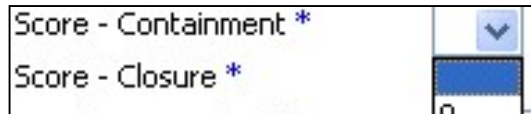

Figure 9 – Score Drop down List
- 6.11.1. Score for containment and score for closure need to be filled by originator before the originator close the issue. This score is used to calculate the supplier responsiveness and will affect the supplier monthly performance in scorecard. There is a drop down list in these two fields (see Figure 9). The drop down list include two values "0" and "1". "0" means the supplier doesn't reply on time, and "1" means on time.